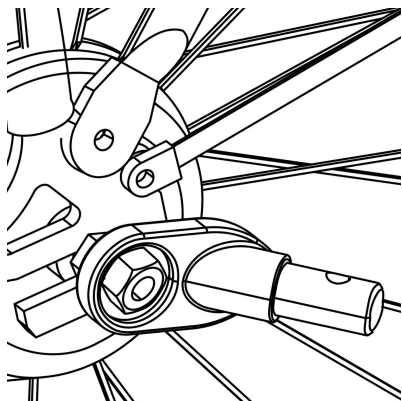

Figure 12
2. Nutted Axle: Unscrew the nut with washer from the left side of bike's rear axle. Install the hitch onto the axle and screw the nut back on with the washer(Figure 12).